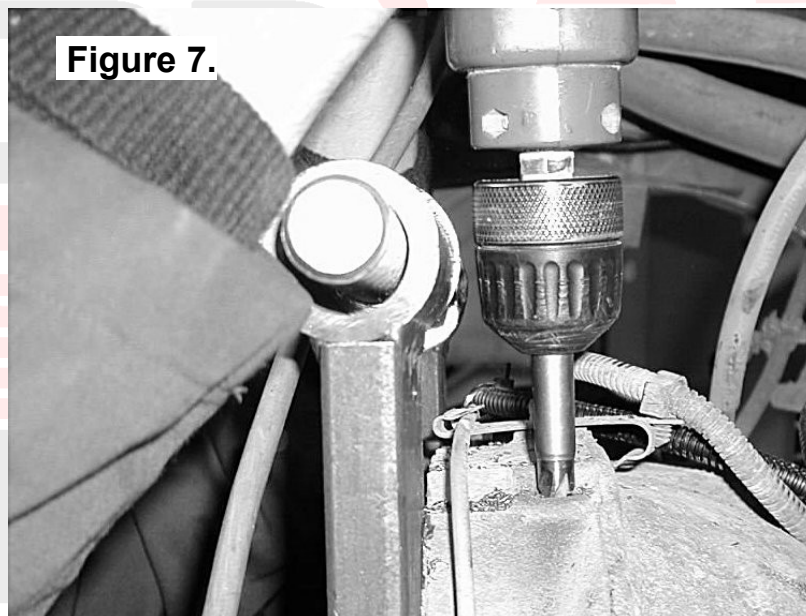

Figure 7.
- Drill through the housing square to the outside surface using an 11.2mm [7/16"] drill. (Fig.7.)